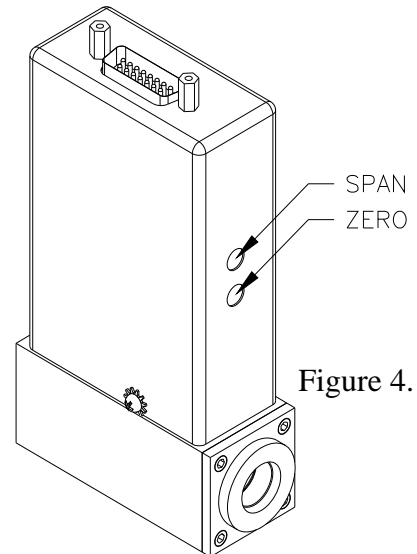

Figure 4.1
4.3.1. Calibration Procedure: (Figure 4.1)
The end cap on the inlet side must be removed to gain access to the filter or shunt assembly. First shut off the supply of gas to the instrument. Disconnect the Swagelok fitting on the inlet and outlet sides of the transducer, and remove it from the system plumbing. Remove the four hex bolts holding the end cap to the instrument (see Figure 4.1). Carefully remove the end cap, filter, wave spring (if present) and shunt, noting their order and proper orientation. The shunt can be severely damaged if dropped. Examine the filter and shunt. If either is dirty or blocked, clean or replace as applicable. Reassembly is the reverse of the removal procedure. Recalibration of the HFC is necessary.